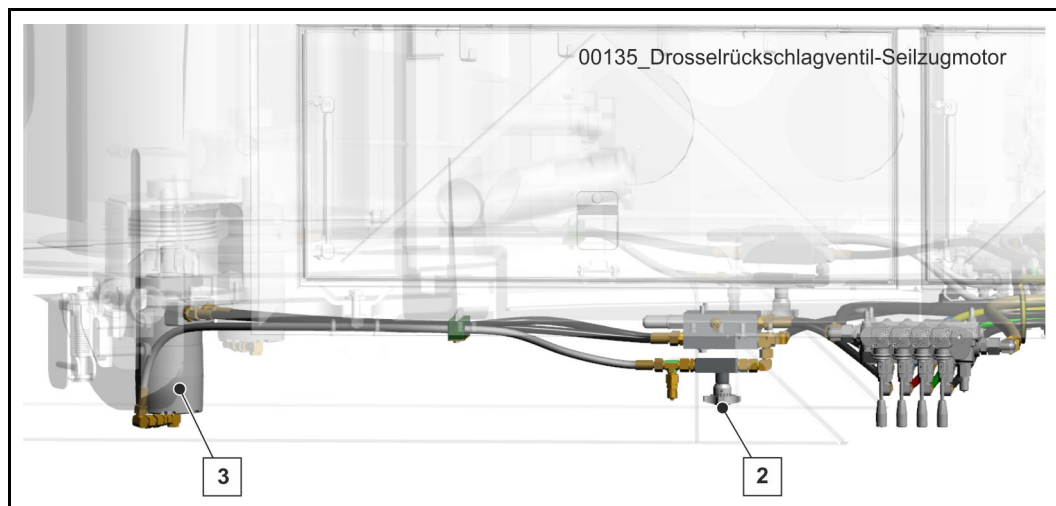

Fig. 318 Wire rope hoist motor (3) with one-way restrictor (2)
- Close the one-way restrictor (2) (**Fig. 318**)
- Release the one-way restrictor (2) (**Fig. 318**) (brake closes and releases again)